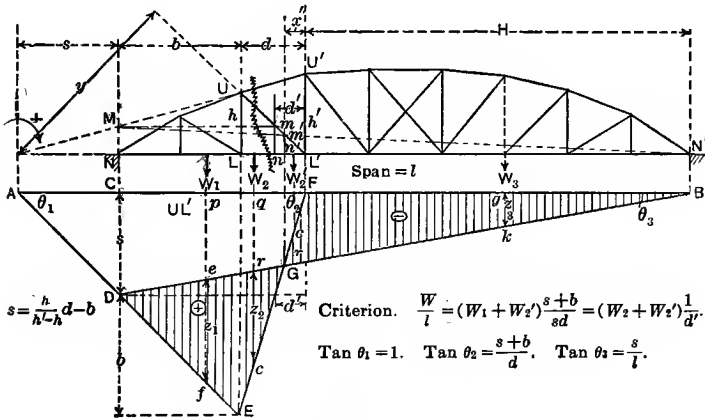
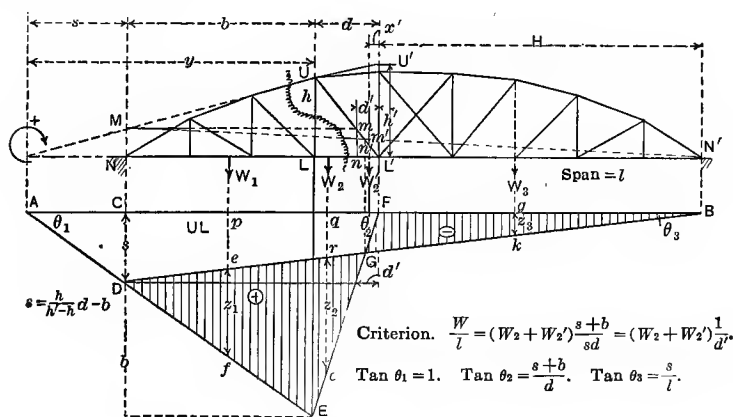
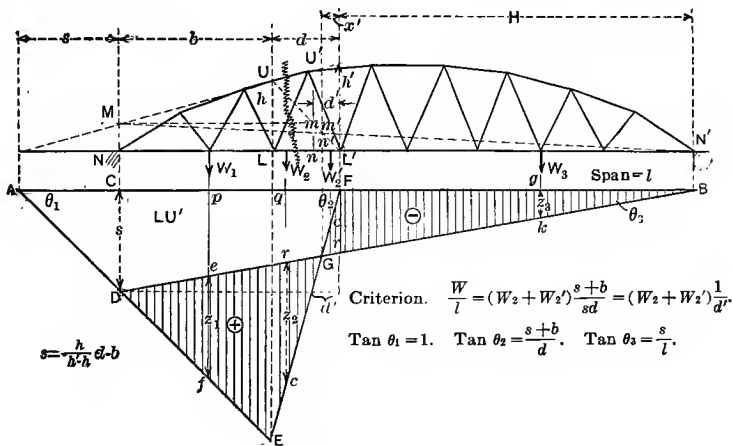

FIG. 1.
FIG. 2.
FIG. 3.
(a) Through any point  $A$  (refer to Fig. 1; the other figures are lettered correspondingly) in a vertical line passing through the center of moments, draw a horizontal line cutting the vertical line through the left support of the truss at  $C$  and the vertical line through the right support at  $B$ .
**Diagonal of Pratt Truss with Inclined Top Chord.**— Fig. 1 shows this truss and the influence diagram for the member  $UL'$ . The shaded area is the influence diagram.
The value of  $d'$  is found graphically from the influence diagram by drawing a line through  $D$  parallel to  $CB$  until it cuts the vertical line through  $F$ , then  $d'$  is the distance indicated in the figure (Fig. 1 and those which follow). This value may also be found graphically without drawing the influence diagram by simply drawing in the truss diagram the line  $Mm$  parallel to the *bottom cut chord*  $LL'$  and prolonging it until it cuts a diagonal line drawn from the intersection of the cut top chord and a vertical through the left end of the *cut stringer* to the intersection of the cut bottom chord and the vertical through the right end of the *cut stringer*. This point is indicated by the letter  $m$  in the figure. The horizontal distance of this point  $m$  from
the vertical through the right end of the *cut stringer* is the value of  $d'$ . This is easily shown as follows: Fig. 1.
**Neutral Point.**—The position of a load which produces no stress in the web member  $UL'$  is indicated by the point  $G$  in the influence diagram, Fig. 1, since a load in the truss immediately above  $G$  produces no stress in the member as shown by a zero ordinate in the influence diagram. The point  $m'$  shown in the truss diagram is directly above  $G$ . This point is located by the intersection of the line  $MN'$  and the diagonal drawn as explained in determining  $d'$ . Let  $x'$  be the horizontal distance from  $m'$  to the vertical through the right end of the *cut stringer*, and  $H + x'$  the horizontal distance of  $m'$  from the vertical through the right support of the truss. Then in Fig. 1
**Vertical of Pratt Truss with Inclined Top Chord.**—The truss diagram and the influence diagram are shown in Fig. 2.
All of the demonstrations given for Fig. 1 apply to Fig. 2. For all loads upon the left of the vertical through  $G$  the vertical is in tension and for those upon the right of  $G$  it is in compression.
—The web member  $U'L$ , Fig. 3 has been selected. A comparison with Fig. 1 shows that the influence diagram
is constructed in exactly the manner followed in Fig. 1, and that all of the demonstrations of Fig. 1 apply equally well to Fig. 3. The locations of points  $m$  and  $m'$  are clearly shown in the figure where the verticals  $h$  and  $h'$  and the diagonal  $UL'$  are not members of the truss.